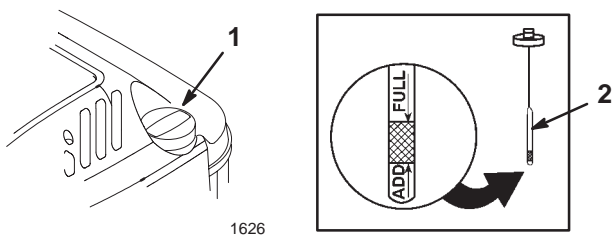

Figure 5
Before each use, ensure that the oil level is between the *Add* and the *Full* marks on the dipstick (Fig. 5).
2. Clean around the dipstick (Fig. 5).
6. Read the oil level on the dipstick (Fig. 5).